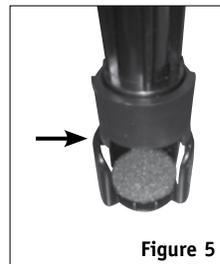

Figure 5
1. The CT has an opening at the bottom of the tube where air is exhaust away from the leg. The widest portion of the filter cap must be lined up with the exhaust opening before attaching (**Figure 5**).